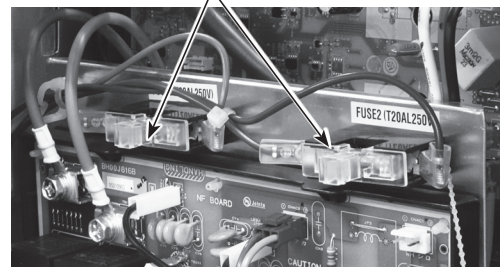

Figure 4
- (1) Remove the service panel. (See Photo 1)
- (2) Remove 2 screws (4 x 10) for cont base to remove the cont base. (See Figure 4)
- (4) Remove screws (3 x 12) for fuse holders to remove the fuse holders. (See Figure 4 and Photo 19)